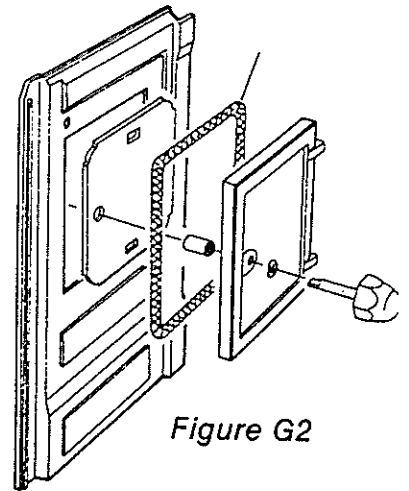

Figure G2
2. Side Loading Door Gasket (Figure G2) 1/2 x 34 inches long.